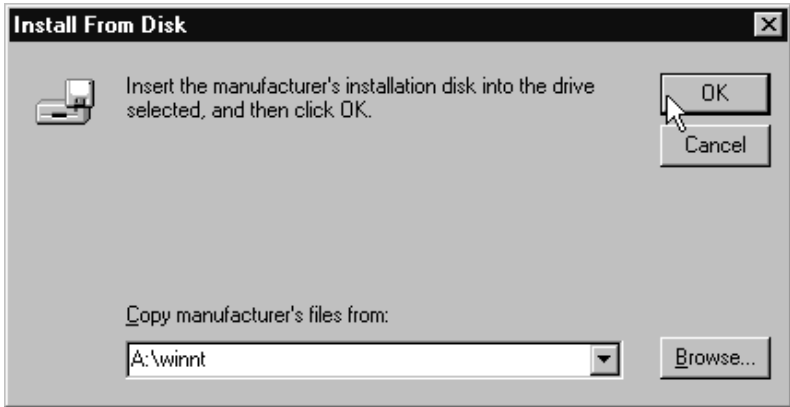

Figure 25. Install from Disk
- 2 Click on the **Have Disk...** button. The **Install from Disk** (Figure 25) dialog appears. Insert the 3ware driver installation diskette. **DO NOT** use the special diskette labeled specifically for Windows NT driver installation.